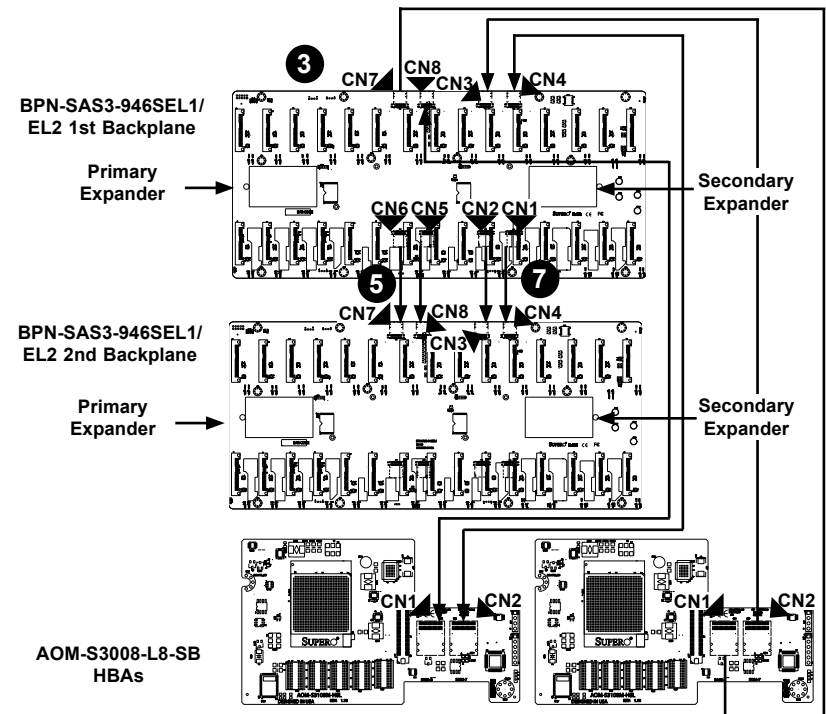

Figure 3-3. Backplane Cascading Configuration (EL2 Version)
3. Plug the cables into connector CN7 and CN8 then CN3 and CN4, then route the cables to connectors CN1 and CN2 on the undersides of both AOM-S3008-L8-SB HBAs as illustrated in Figure 3-3.
5. Connect the cables to CN5 and CN6, then route them to CN7 and CN8 on the underside of the 2nd backplane as illustrated in Figure 3-3.
7. Connect the cables to CN1 and CN2, then route them to CN3 and CN4 on the underside of the 2nd backplane as illustrated in Figure 3-3.